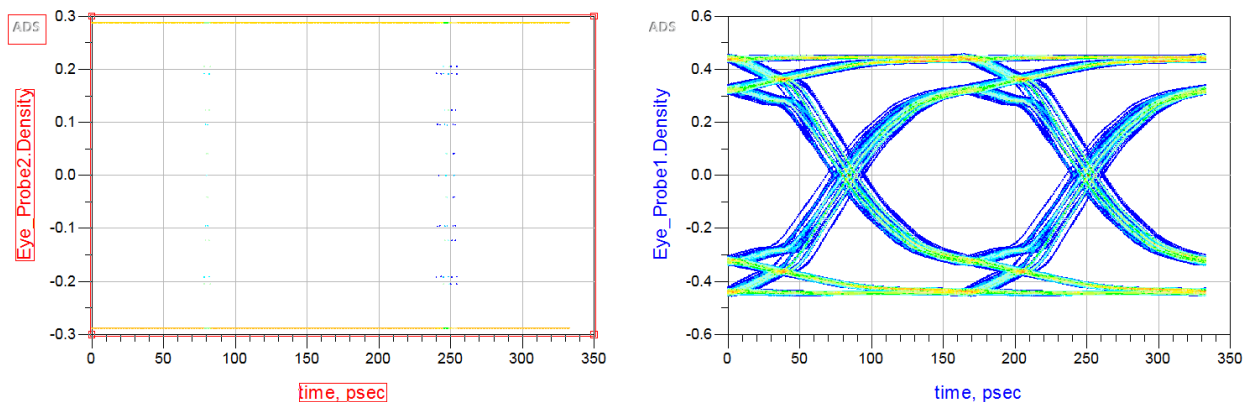

Figure 2. Simulation Results for differential driver
4. In the popup after simulation, insert rectangular plot from palette panel and link density measurement to view the eye diagram. Refer Figure 2.